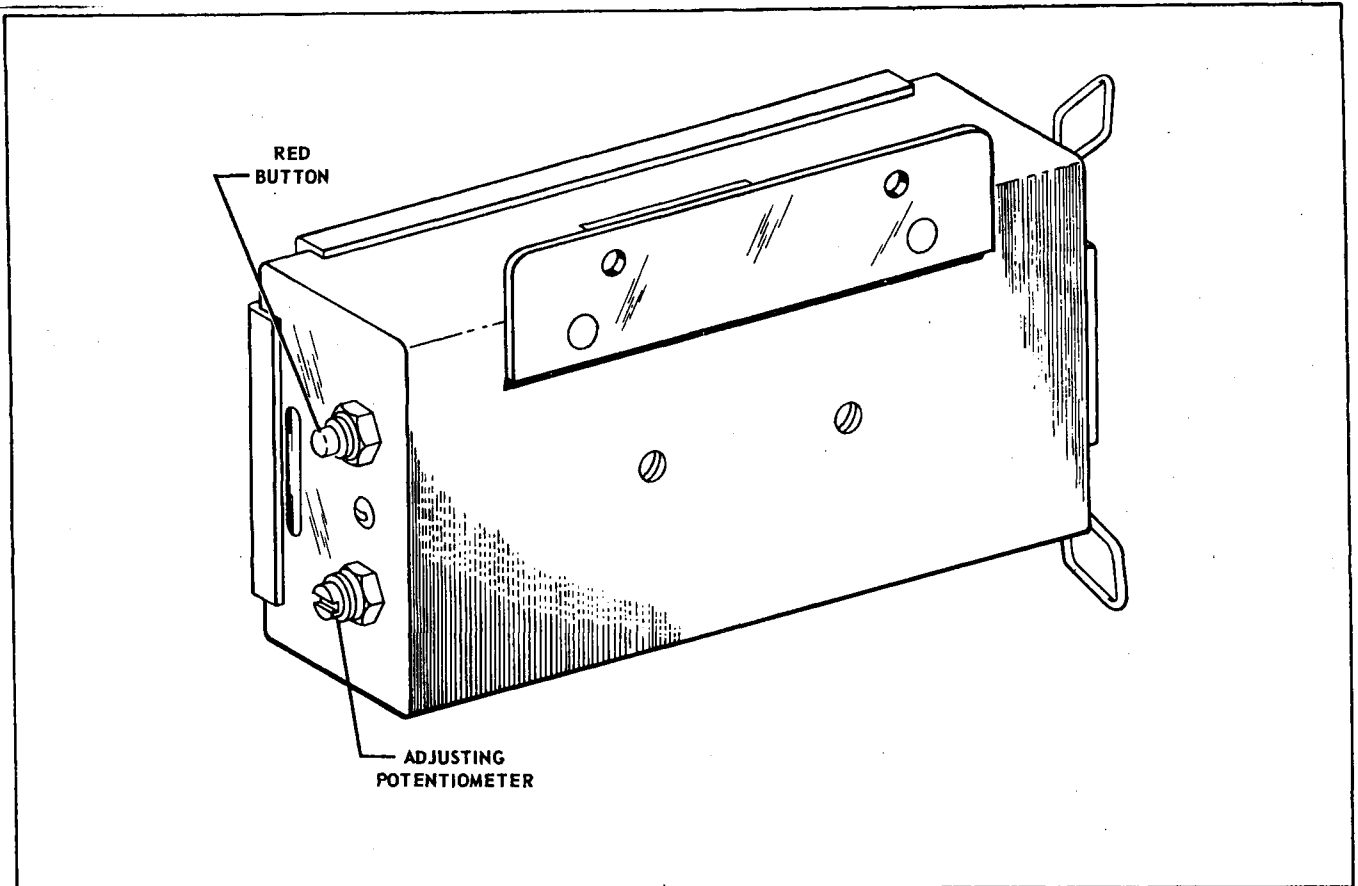

Figure 11-1. Glide Slope Coupler
11-1. INTRODUCTION. The information in this section will list the equipment necessary to bench check the Glide Slope Coupler and the proper procedure for connecting this equipment. The bench set-up procedure is also described. For red button and adjusting pot location on Glide Slope Amplifier, refer to Figure 11-1. For functional ground and flight checks, refer to Section XII. For Schematics, refer to paragraph 11-4 of this section.
36. Rotate slot head potentiometer on Glide Slope Coupler full clockwise. (Refer to Figure 11-1.)